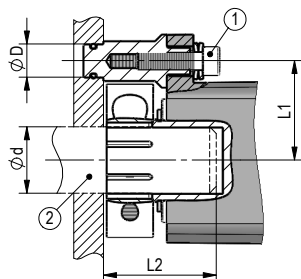
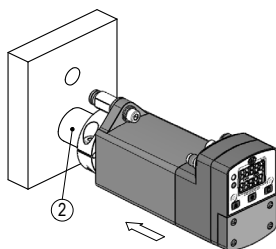
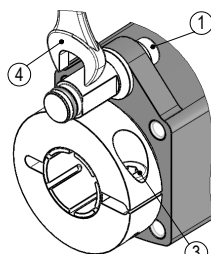

Fig. 1: Mounting dimensions
Fig. 2: Mounting
Fig. 3: Fastening torque for screws
- ▶ Ensure a low shaft and angle offset between shaft and accommodation bore by applying appropriate manufacturing methods (see **Fig. 1** + **Tab. 1**).
If torque pin (see **Fig. 3**) is mounted improperly, this will lead to a destruction of the casing.
**Preparing mounting (Fig. 1, Fig. 2, Fig. 3):**
1. Make bore ( $\varnothing D$ ) with distance (L1) to the driving shaft ②.
2. Observe length (L2) and diameter ( $\varnothing d$ ) of shaft ②.
3. Untighten the M5 screw in the torque support ① and M4 screw in the clamping ring ③.
**Mounting (Fig. 1, Fig. 2, Fig. 3):**
1. Slide the actuator on the shaft ② until the torque support has reached the stopper ①. You may slightly adjust the torque support to the installation conditions via a long hole).
2. Tighten the clamp ring screw ③ by applying 5 Nm.
3. Tighten the screw for the torque support ① by applying  $\leq 2$  Nm. Lock using a size 10 open wrench ④.